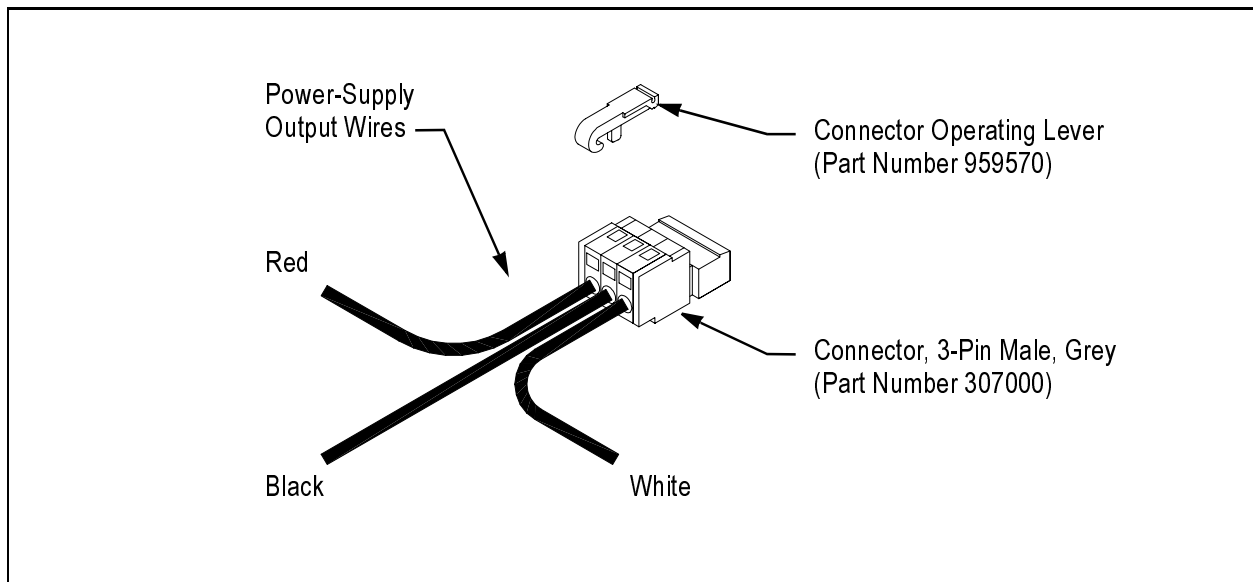

Figure G.8 – Wiring a Male Connector to a Power-Supply Output Cable
1. Replace the female connectors on the power-supply output cables with male connectors (part number 307000) (see Figure G.8).